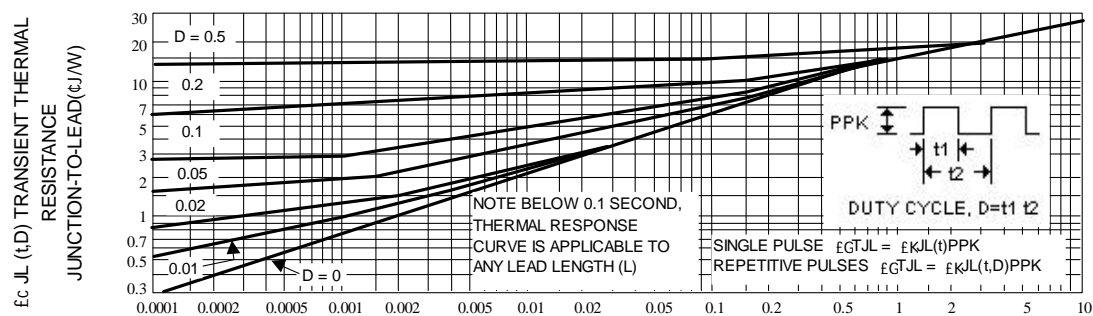
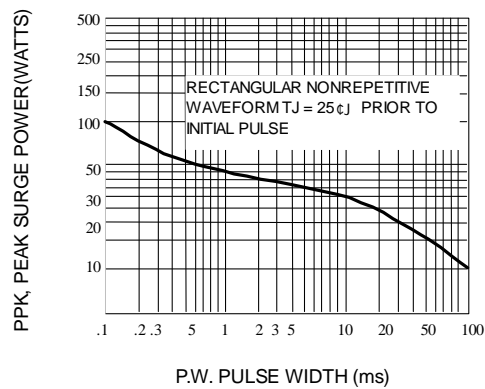
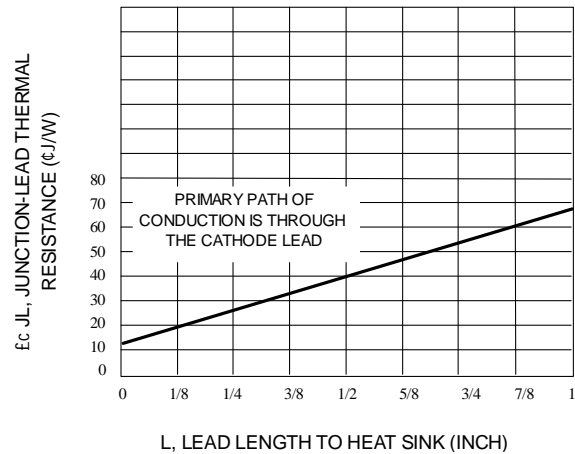

Fig. 2-TYPICAL THERMAL RESPONSE L,
Fig. 3-MAXIMUM SURGE POWER
Fig. 10-TYPICAL THERMAL RESISTANCE
4. SURGE CURRENT (I_R) NON-REPETITIVE - The rating listed in the electrical characteristics table is maximum peak, non-repetitive, reverse surge current of 1/2 square wave or equivalent sine wave pulse of 1/120 second duration superimposed on the test current, I_{ZT}, per JEDEC standards, however, actual device capability is as described in Figure 3.
θ_{JT} is the increase in junction temperature above the lead temperature and may be found from Figure 2 for a train of power pulses or from Figure 10 for dc power.
Data of Figure 2 should not be used to compute surge capability. Surge limitations are given in Figure 3. They are lower than would be expected by considering only junction temperature, as current crowding effects cause temperatures to be extremely high in small spots resulting in device degradation should the limits of Figure 3 be exceeded.